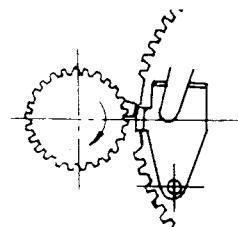

Fig. 3
4. The engagement is very easy to move as it simply rests on the lower trip. On the music section of the record groove the engagement moves so slightly that it is returned by the tip of the projection. Consequently, the turntable spindle gear does not engage with the main gear and thus does not trigger the auto-return operation as shown in Fig. 3.